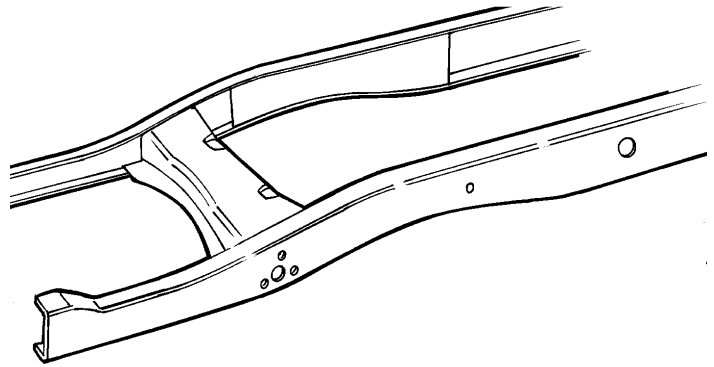

Figure 1
3. Boxing the rails is next. The rails should be squared up as far as the flanges are concerned and made straight and true. The boxing plates are then laid up against the rails and clamped in place. Weld short sections at a time in alternating locations to minimize warpage. Grind smooth when done. See Figure 1.